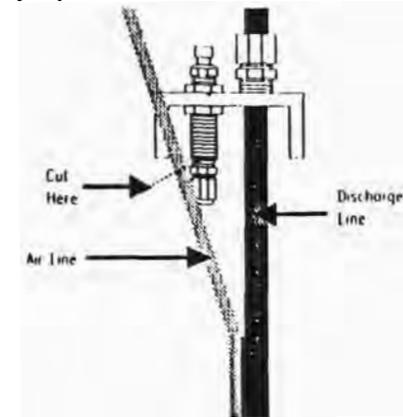

Figure 2-3: Where to Cut the Tubing
2. Referring to Figure 2-3, estimate where to cut the air-supply tubing so that it contacts the shoulder inside the 1/4-inch air fitting on the underside of the cap or plate—leaving a little bit of slack (the 3/4-inch tubing should provide the main support for the pump).